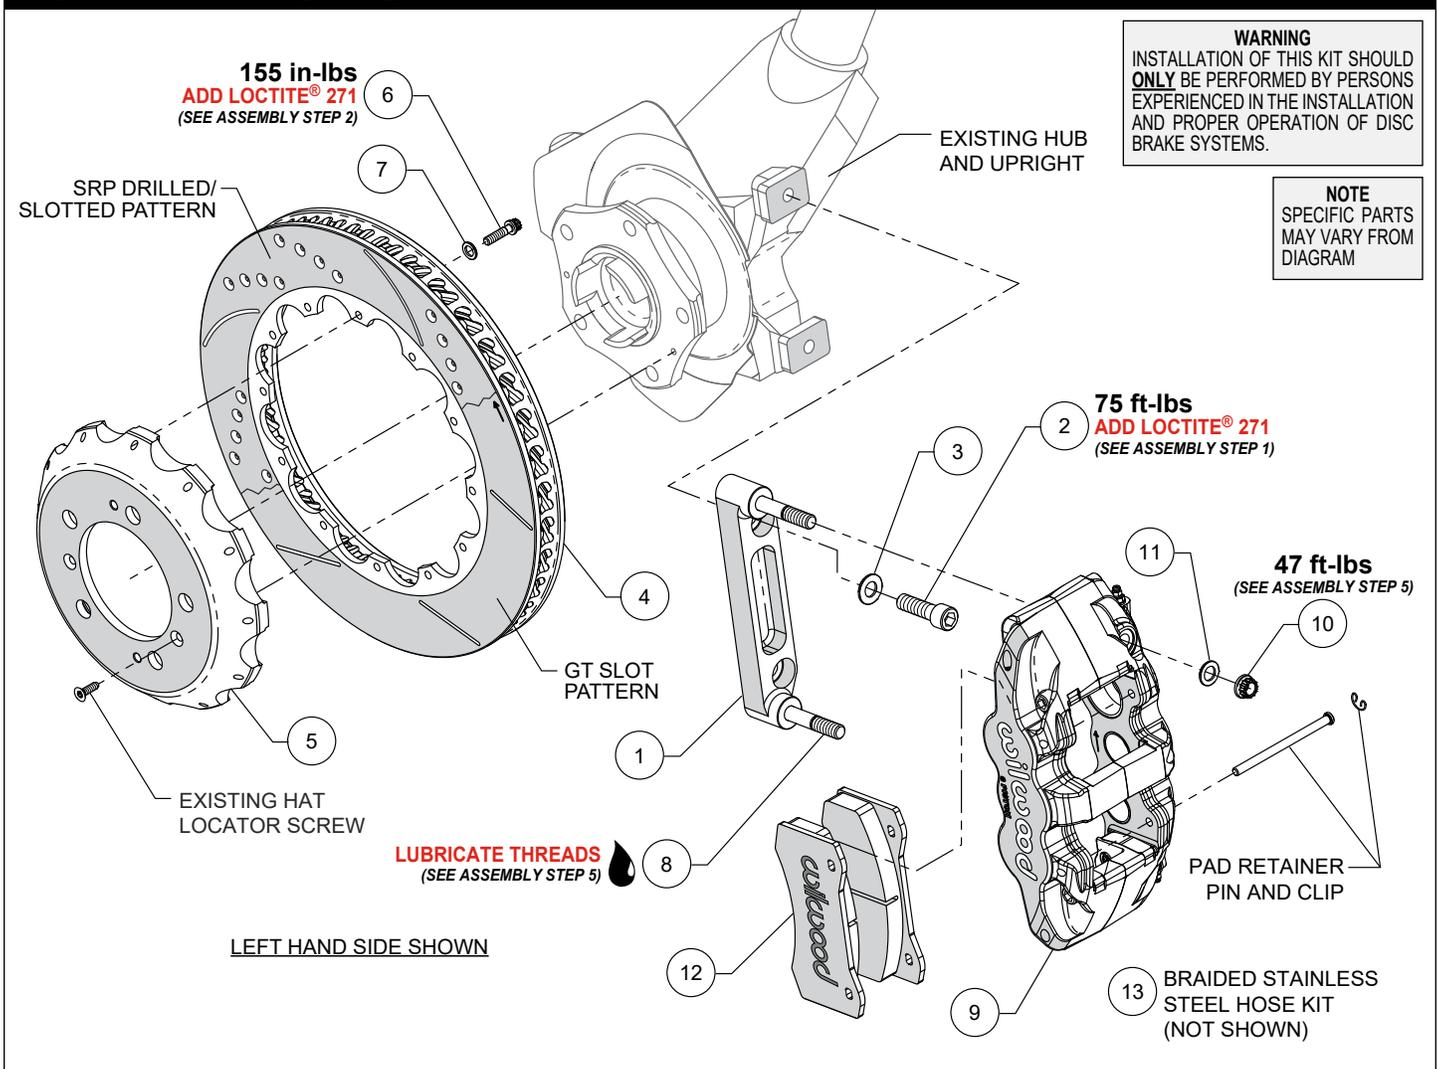
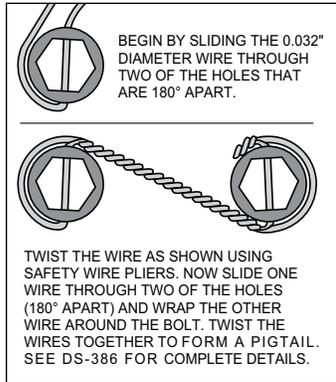

Figure 1. Typical Installation Configuration
Figure 3.
NOTE: Numbers in parenthesis refer to the parts list and Figure 1 on the preceding pages.
STEP 1 The caliper mount bracket (1) should initially be installed with clean, dry threads on the mounting bolts. Orient the bracket as shown in Figure 1 and Photo 1, and install using bolts (2) and
washers (3). Temporarily tighten the mounting bolts. **NOTE:** The bracket must fit squarely against the mount bosses on the upright. Inspect for interference from casting irregularities, machining ridges, burrs, etc. Remove each bolt one at a time, apply red Loctite® 271 to the threads, and torque to value shown in Figure 1.
STEP 2 Orient the rotor (4) and the hat (5) as shown in Figure 1. Attach the hat to the rotor using bolts (6) and washers (7) as shown in Photos 2 and 3. Apply red Loctite® 271 to the bolt threads and torque to value shown in Figure 1. For an added measure of security, the bolts may be safety wired using standard 0.032 inch diameter stainless steel safety wire as shown in Figure 3. Please refer to Wilwood's data sheet DS-386 (available at www.wilwood.com/Pdf/DataSheets/ds386.pdf) for complete safety wire installation instructions.
STEP 3 Slide the rotor/hat (4/5) assembly onto the hub, Photo 4. **NOTE:** The hat must fit flush against the hub flange or excessive rotor run out may result. Install the existing OEM hat locator screws as shown in Figure 1, Photo 4, to keep the hat/rotor assembly in place while continuing with the installation.
STEP 4 Remove the two pad retaining pins from the caliper (9) by carefully popping out the pin retaining clips and sliding out the pins. Insert the brake pads (12) into the caliper from the bottom with the friction material facing the rotor, Figure 1 and Photo 5. Secure the brake pads in place with the pad retaining pins and clips, Photo 6.
STEP 5 NOTE: This kit contains distinct right and left hand calipers that must be mounted in a specific direction, as described below. Lubricate the caliper mounting studs (8) with lightweight oil. Mount the caliper (9) onto the bracket (1) using lock nuts (10) and washers (11), Figure 1. Ensure that the caliper is mounted so that the largest pistons are at the rotor exit end of the caliper, in relation to the direction of rotor rotation. Torque the caliper lock nuts (10) to value shown in Figure 1.